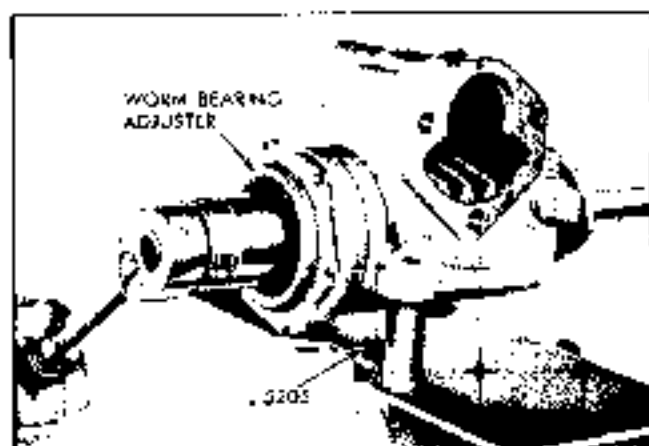

Fig. 9-44 Adjusting Worm Bearing Preload
b. If torque does not meet above specifications loosen worm bearing adjuster lock nut (Fig. 9-44) and turn adjuster to bring torque within 7 in. lb. limits.